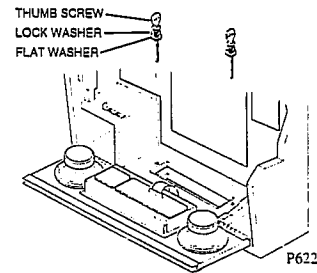

FIGURE 8: INSTALLING BACKBOX LOCKING HARDWARE
15) Attach lock washer and flat washer to thumb screw and fasten to cabinet tee nuts (see figure 8). Tighten firmly.